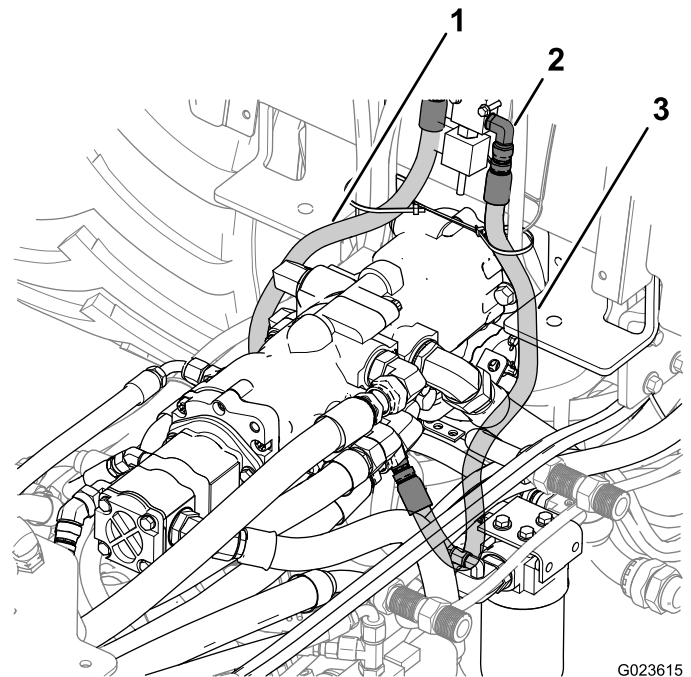
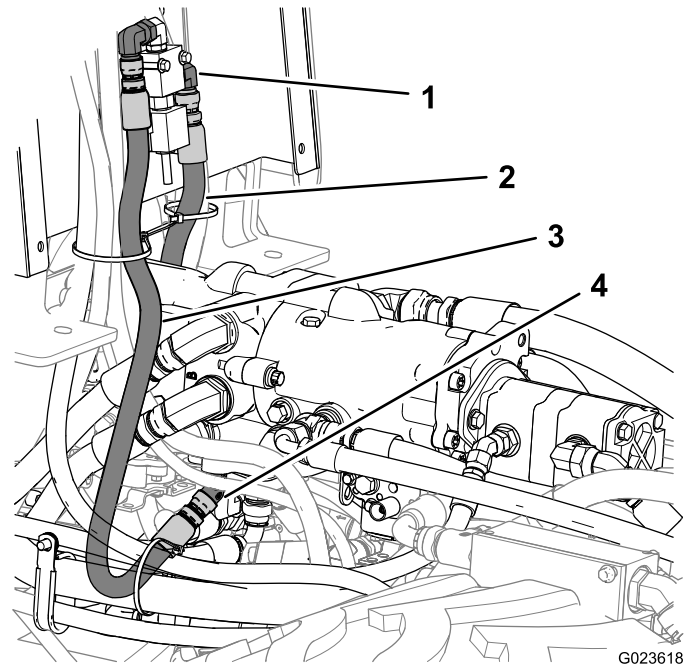

Figure 7
Figure 8
5. Route the left hose through the other hoses under the unit to the left plug on the bottom of the main hydraulic manifold (Figure 7 and Figure 8).
6. Ensure that the hose does not contact any hard surfaces, and secure it to the other hoses at the level of the floor plate with a cable tie (Figure 7 and Figure 8).